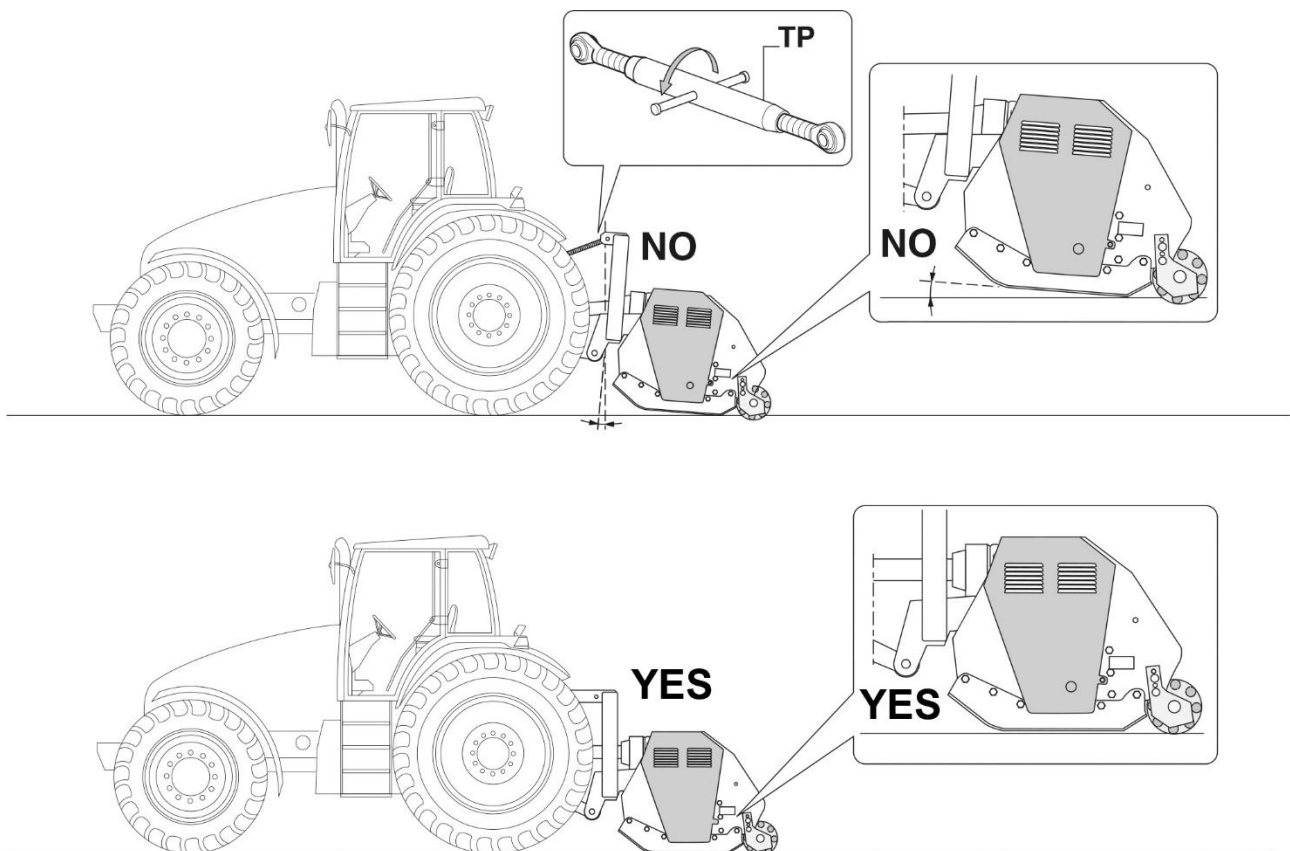

Figure 12
The adjustment must be carried out using the adjustable top link of the tractor (TP) (Figure 12).